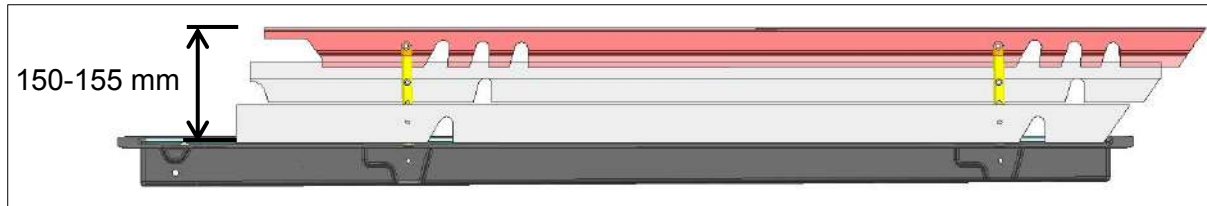

Figure 27-29: AB Open fully
This deflection is measured from wing top surface to the top of the airbrake blade with the airbrake fully extended. Figure 27-29 illustrates the measuring of the airbrake deflection.
- If the cap is stiff near the root end, remove the split pin and washer from the short pin on the cap. If this solves the problem, blade 1 has not been trimmed according to the drawing, or it might be necessary to trim the blade further increasing the length (Figure 27-29).
27. Check that the AB achieves full operating range to the open position. The fully open position is more than 150 mm and there is no interference between the blades and the wing as shown in Figure 27-29.